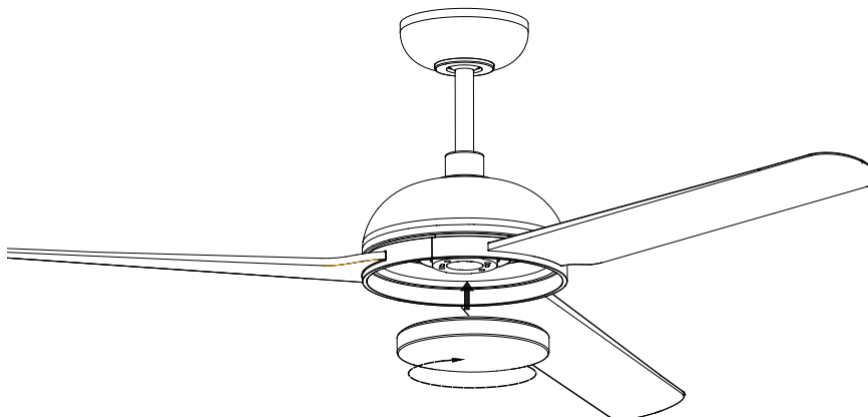

Fig. 8
INSTALLATION OF LAMP (Fig. 8)
- Install the lamp on the fan assembly then secure it by turning clockwise. (Fig. 8)